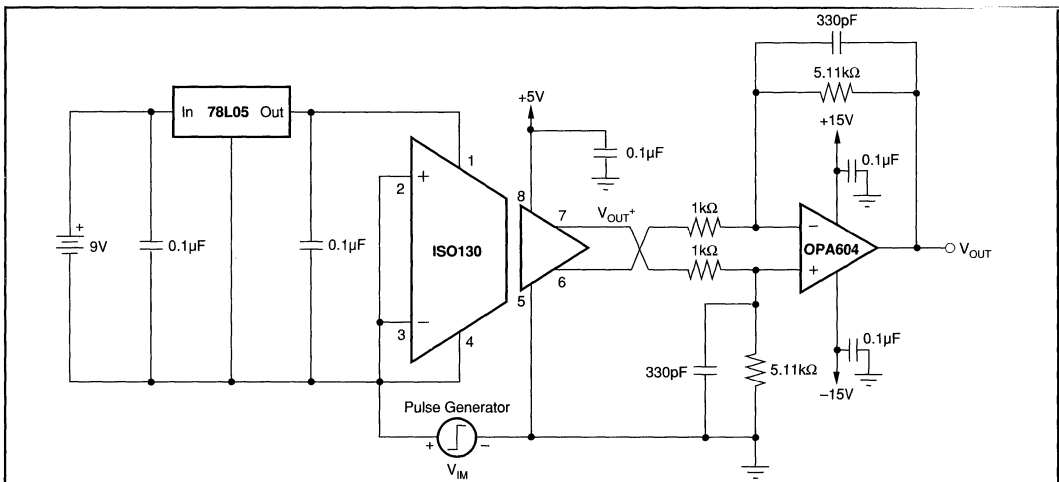

FIGURE 2. Isolation Mode Rejection and Transient Immunity Test Circuit.
The third guaranteed isolation specification for the ISO130 is Transient Immunity (TI), which specifies the minimum rate of rise or fall of an isolation mode noise signal at which small output perturbations begin to occur. An isolation mode signal is defined as a signal appearing between the isolated grounds, GND_1 and GND_2 . Isolation Mode Voltage (IMV) is the voltage appearing between isolated grounds. Under certain circumstances this voltage across the isolation barrier can induce errors at the output of the isolation amplifier. Figure 2 shows the Transient Immunity Test Circuit for the ISO130. In this test circuit a pulse generator is placed between the isolated grounds (GND_1 and GND_2). The inputs of the ISO130 are both tied to GND_1 . A difference amplifier is used to gain